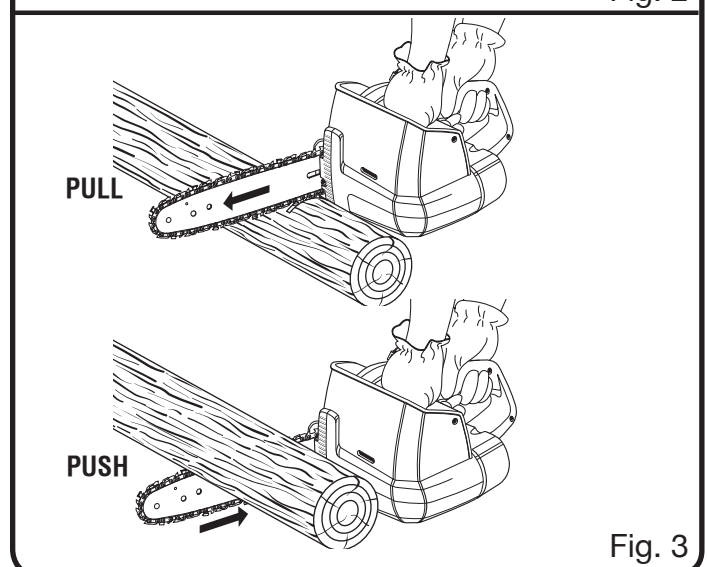

Fig. 3
- Push and Pull - This reaction force is always opposite to the direction the chain is moving where wood contact is made. Thus, the operator must be ready to control the PULL when cutting on the bottom edge of the bar, and PUSH when cutting along the top edge. See Figure 3.